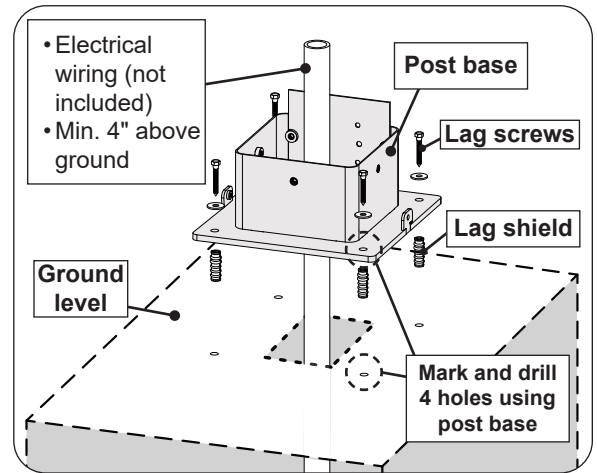

Fig. 4-1 Post specification
1. Route the electrical wiring up from underground to the planned post location, then position the post base over the electrical wiring. See Fig. 4-1.
2. Ensure proper placement of the planned post location and use the post base to mark the 4 holes to the ground. See Fig. 4-1.